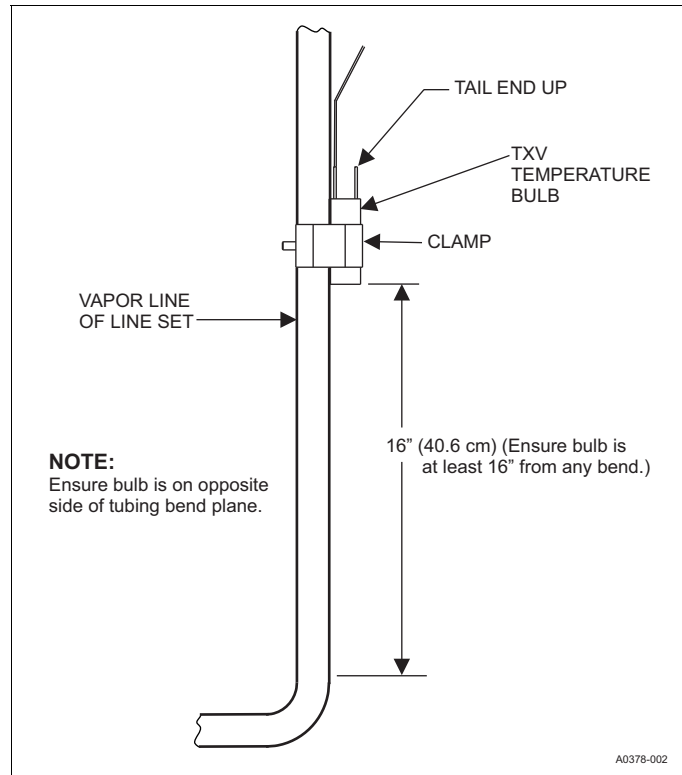

FIGURE 8: Vertical Temperature Bulb Orientation
- b. If bulb must be installed vertically to the suction line, position the bulb at least 16 inches (40.6 cm) from any bend and on the opposite side of the bend plane. Positioned the bulb with the bulb tail at the top, so that the bulb acts as a reservoir. See Figure 8.